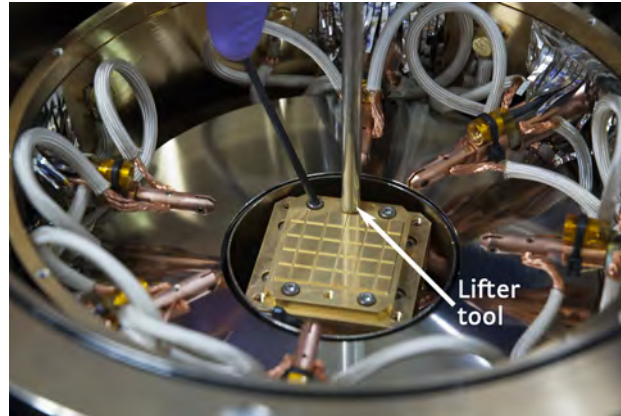

FIGURE 4-5 Lifter tool screwed into a lifter tool hole
2. Screw the lifter tool into the sample holder. There are two holes available for the lifter. Use the most convenient (FIGURE 4-5).